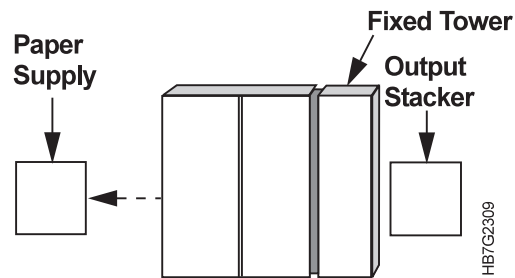

Figure 288. Right Side View of the InfoColor 70
- 1 Pull the paper supply away from the print tower, as shown in Figure 288.